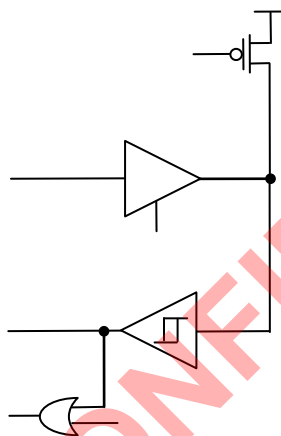

Figure 11.1 Ports I/O block diagram
A8107M0 has 32pins digital I/O Pins and each of the Port pin can be defined as general-purpose I/O (GPIO) or peripheral I/O signals connected to the timers, UART, I2C and SPI functions. Thus, each pin can also be used to wake up from sleep MODE. User can select each pin function by setting register. Each port has itself port register like P0 (0x40010000), that are both byte addressable and bit addressable. When reading, the logic levels of the Port's input pins are returned. Each port has three registers to setting Pull-up (PUN), Output-enable (OE) and Wake-up enable (WUN). As shown the bellow block diagram, Fig. 11.1. Unused I/O pins should have a defined level and not be left floating. One way to do this is to leave the pin unconnected and configure the pin as a general-purpose I/O input with pull-up resistor.